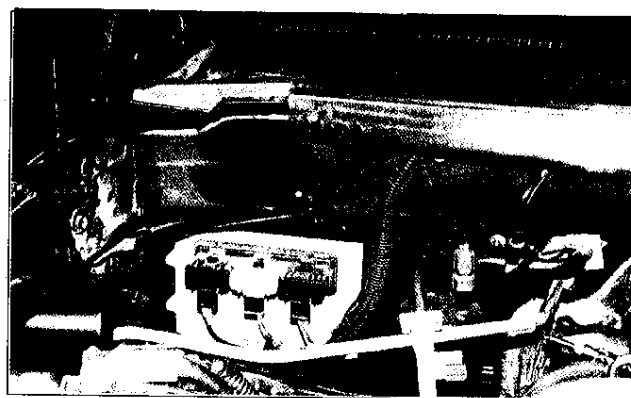

Fig. 7
- In the engine compartment, cut away about 8" of insulation from the upper right (passenger) side of the plenum (Fig. 7).